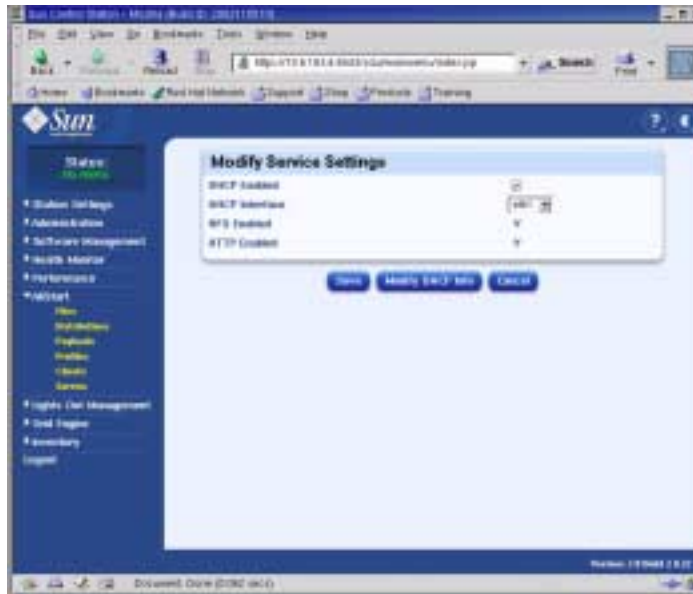

FIGURE 2-23 Modify Service Settings Window
3. In the **Modify Service Settings** window, make the following required settings (see FIGURE 2-23 for an example):